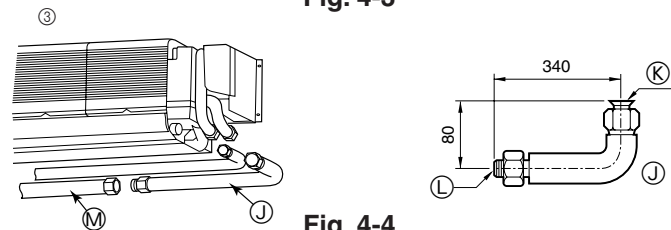
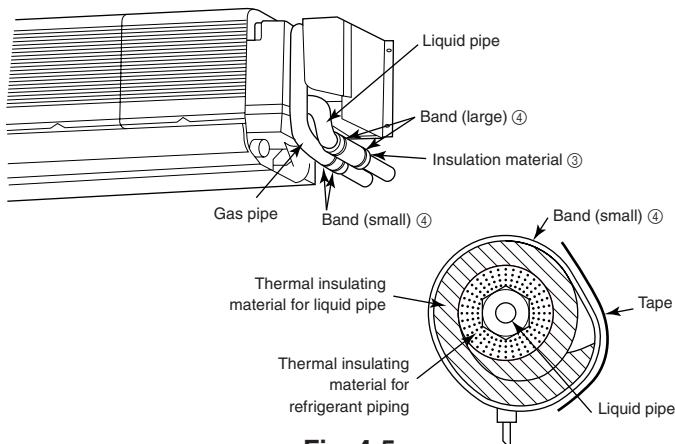

Fig. 4-4
Fig. 4-5
(3) L-shaped connection pipe (for gas piping) (Fig. 4-4)
- (A) 107 mm (P63), 102 mm (P100)
- (B) Drain hose
- (C) Liquid pipe
- (D) Gas pipe
- (E) Drain hose in left-side piping
- (F) Knockout holes on the unit body
- (G) For left-side piping
- (H) For lower-side piping
- (I) For right-side piping
- (J) L-shaped connection pipe (option)
- (K) Unit side
- (L) On-site piping side
- (M) Piping
4.3. Refrigerant piping (Fig. 4-5)